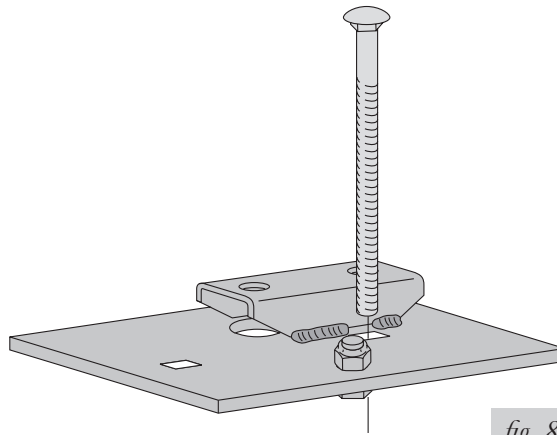

fig. 8
- After determining and installing the appropriate stackup, insert one carriage bolt (N) into the forward hole of the lower bracket (Figure 8).